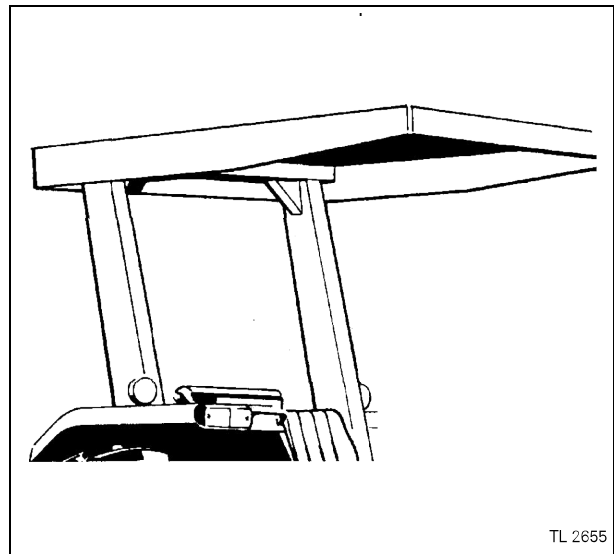

Fig. 9
- ROPS, FOPS (Falling Object Protective Structure), protective enclosure or protective screens (Fig. 9). Remember FOPS are protection from light falling objects and are not intended as protection from large falling objects such as large round bales or fence rails.